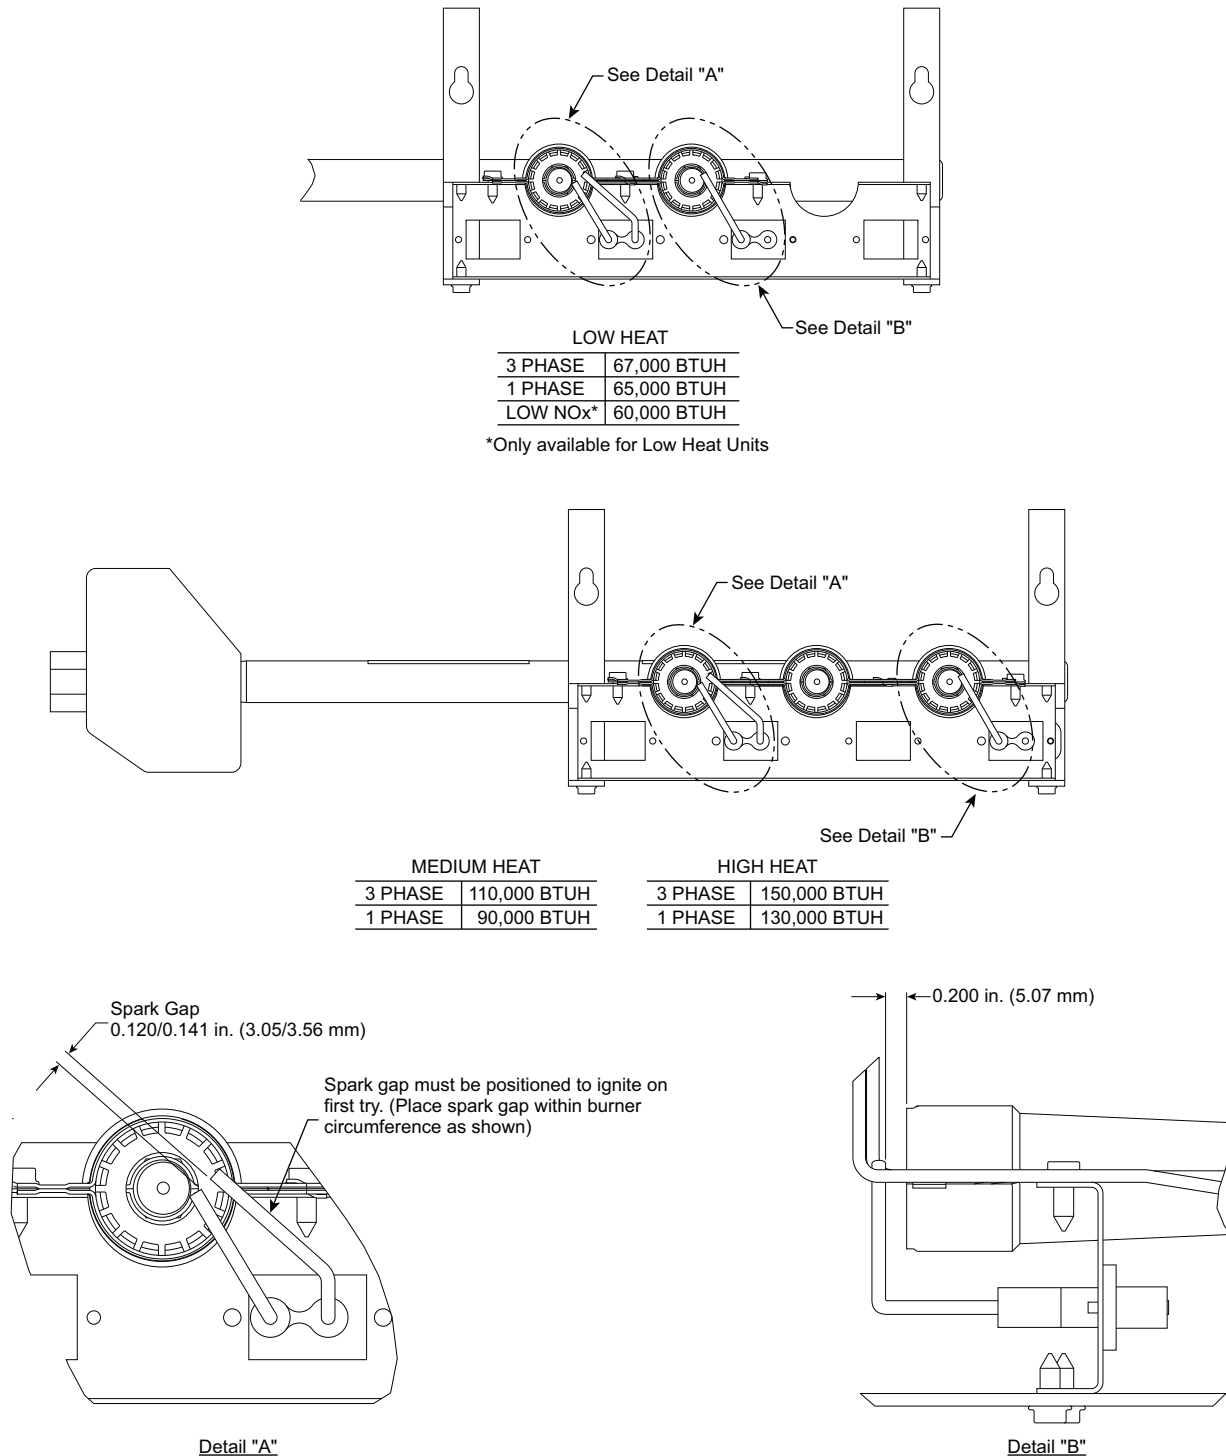

Fig. 59 — Spark Adjustment (Size 04-07)
4. Adjust spark gap. (See Fig. 59.)